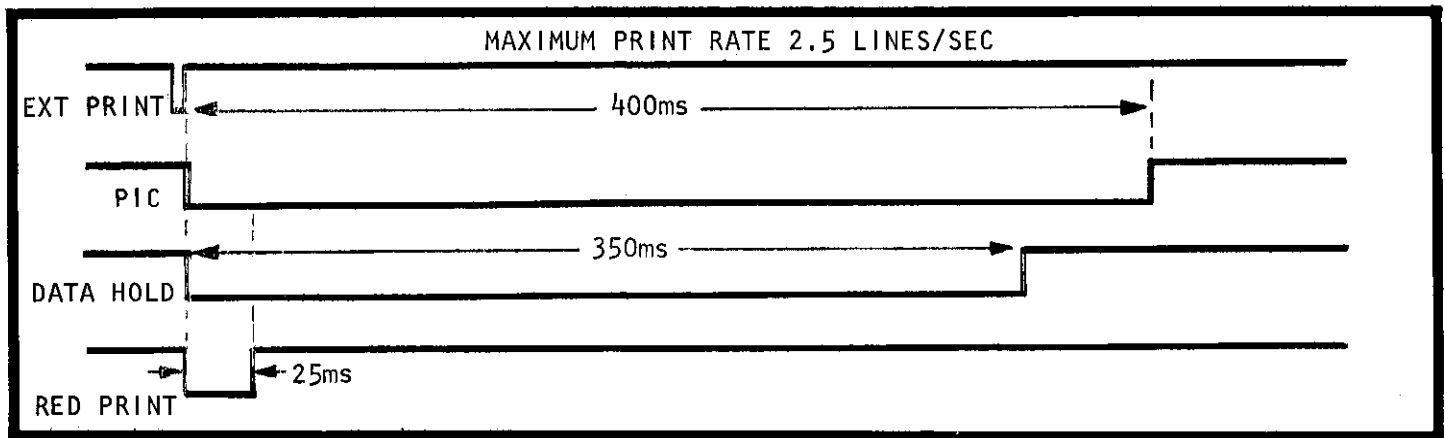

FIGURE 8. Timing For Red Print.
3.  $\overline{RED}$ . (Pin 44) This input requires a Logic '0' to cause the Model 750 to print in "red". This feature may be used to indicate an overload condition on the digital measuring instrument. The RED input is level sensitive with a minimum duration of 25 milliseconds at Logic '0' from the start of PRINT cycle. See Figure 8 for timing considerations. Sinking current for Logic '0' is 2.6 milliamperes.